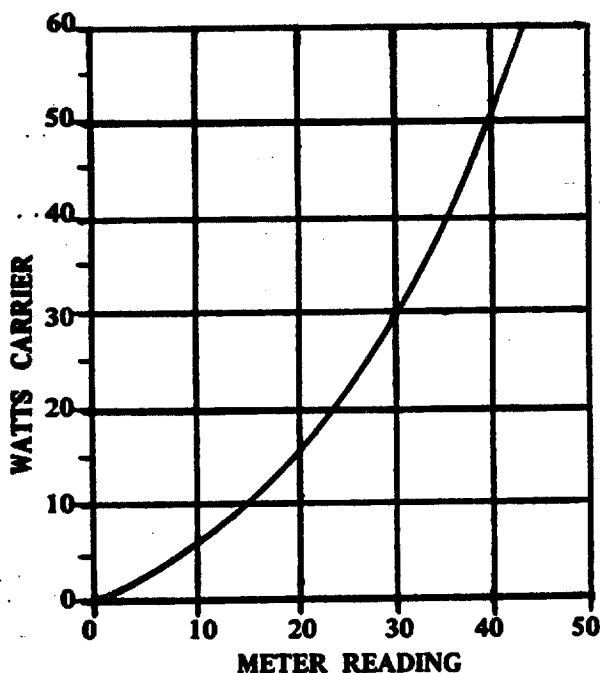

Figure 5-7. LPA RF Carrier Power Vs Meter Reading
- (5) See Curves Figures 5-7 and 5-8.
- (6) Multiply meter reading by 100 to obtain true plate voltage.
- (7) Multiply meter reading by 10 to obtain current in milliamperes. A meter reading of 16 or less (VHF) or 18 or less (UHF) greatly increases the life expectancy of the tube.
- (8) Multiply meter reading by 10 to obtain true screen voltage.
- (9) Multiply meter reading by -2 to obtain true grid voltage.
- (10) Meter reading greater than 7 indicates an over temperature condition, and system will switch to exciter operation only.
- (11) Negative indication exists when power amplifier is in the tune mode.
- (12) Meter reading is usually very slightly up scale from 0 but never greater than 3. A reading of 0 to 10 is typical on exciters equipped with the VHF/UHF Driver/Power Amplifier (P/N 8136838G1).
- (13) A reading of 30 indicates 90% modulation.
- (14) When power amp is not operating, reading will be 16 to 24 indicating exciter mode of operation.
- (15) "Modulated" means continuous modulation inputs are present within the required range for frequency and level.